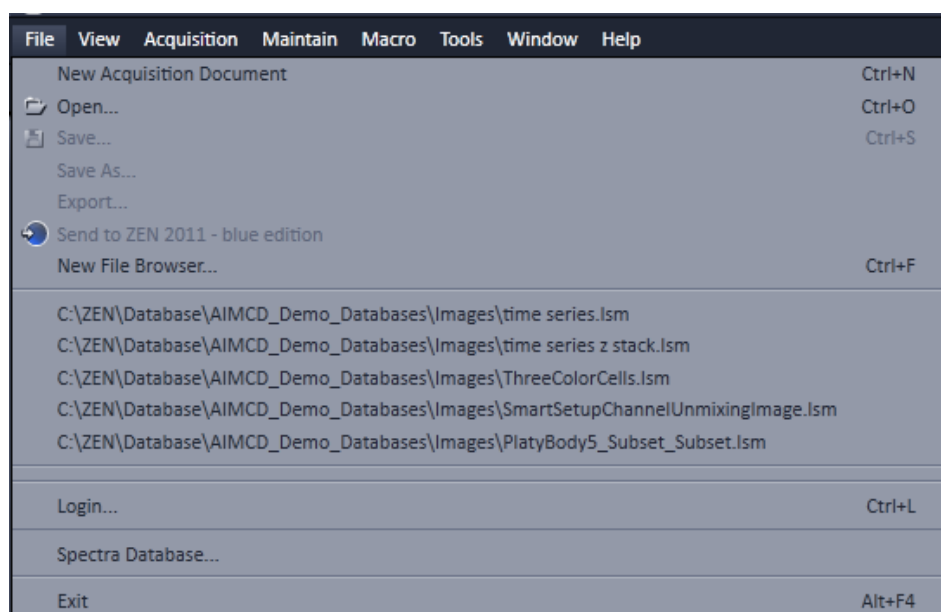

Fig. 16 File menu
- This displays the menu shown in Fig. 16.